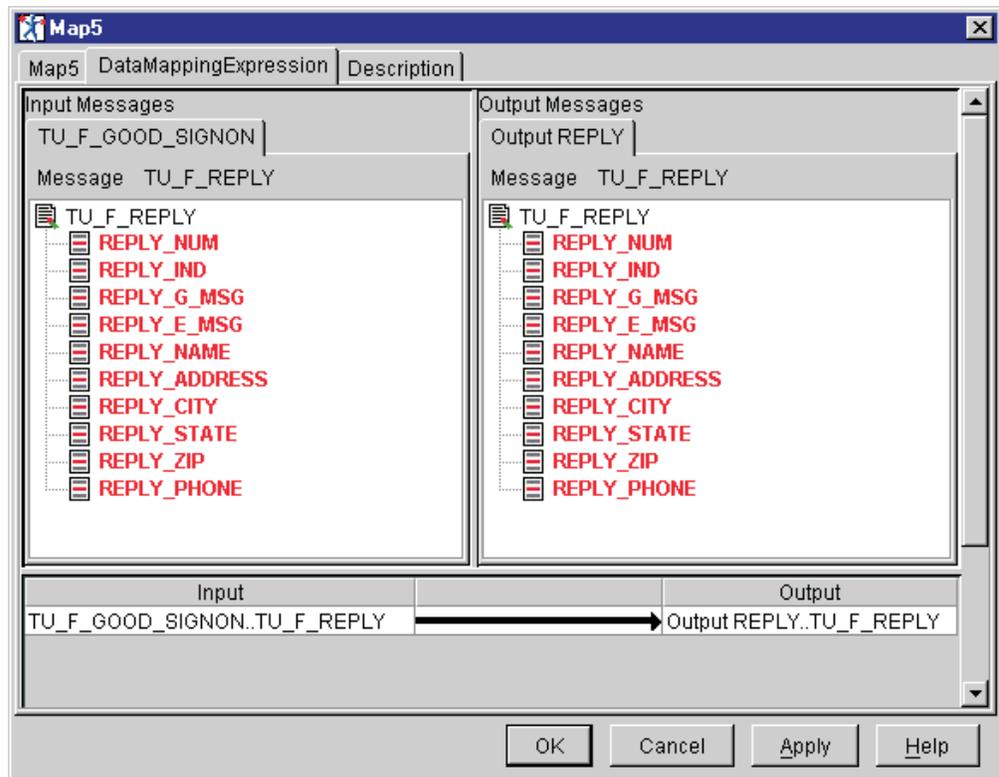

Figure 173. Mapping for Map5 node
- 5) Perform the mapping for the Map5 node as shown in Figure 173 on page 222 .
Left click on the TU\_F\_REPLY message under the TU\_F\_GOOD\_SIGNON message tab and drag the mouse cursor to the TU\_F\_REPLY message under the Output REPLY message tab. This will create a mapping between the two messages (see Figure 173 on page 222). Click **OK**.